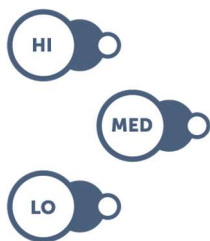

Figure 15 – HI, MED, LO Delivery Rate Selectors
- After determining the delivery volume per drug manufacturer's recommendation, determine which delivery rate to use. Refer to Tables 1 and 2 above, for example dosage calculations. Select the delivery rate using the LO, MED, and HI buttons on the Base. Confirm that the indicator next to the desired button illuminates to indicate the correct delivery rate (Figure 15).